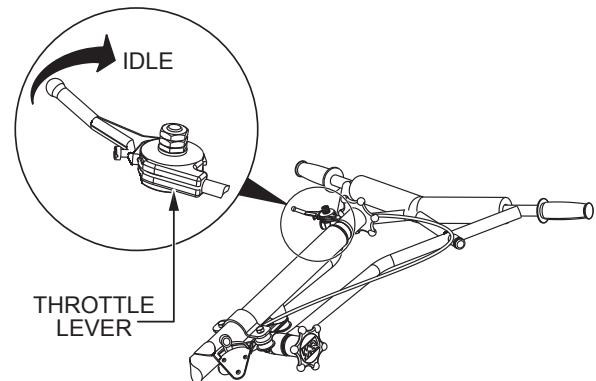

Figure 29. Throttle Lever (IDLE)
3. Place the throttle lever in the **IDLE** position (Figure 29).